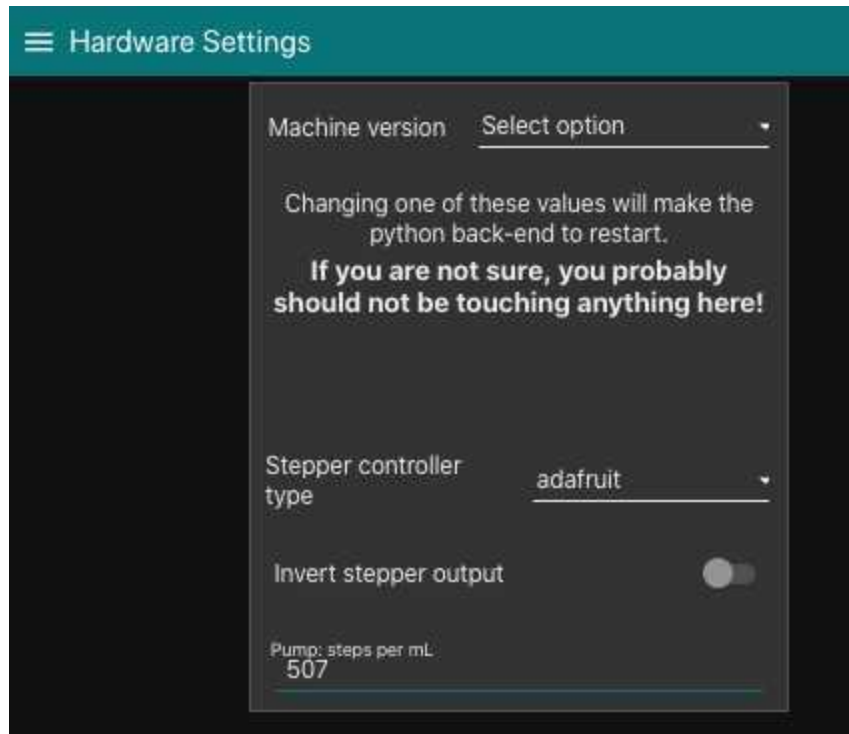

Figure 2: Hardware settings page (pump per step is at the bottom). This is only an example.
1. Go to the hardware setting (fig.2).